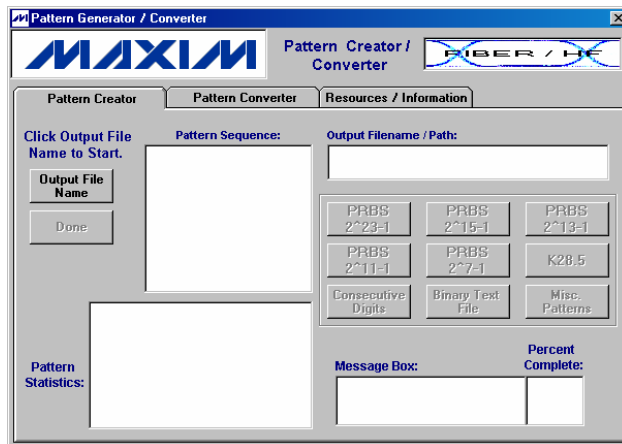

Figure 8. Creator Example Step #1
1. Click the **Output File Name** button and enter the name and location of the file that will be created (Figure 8)